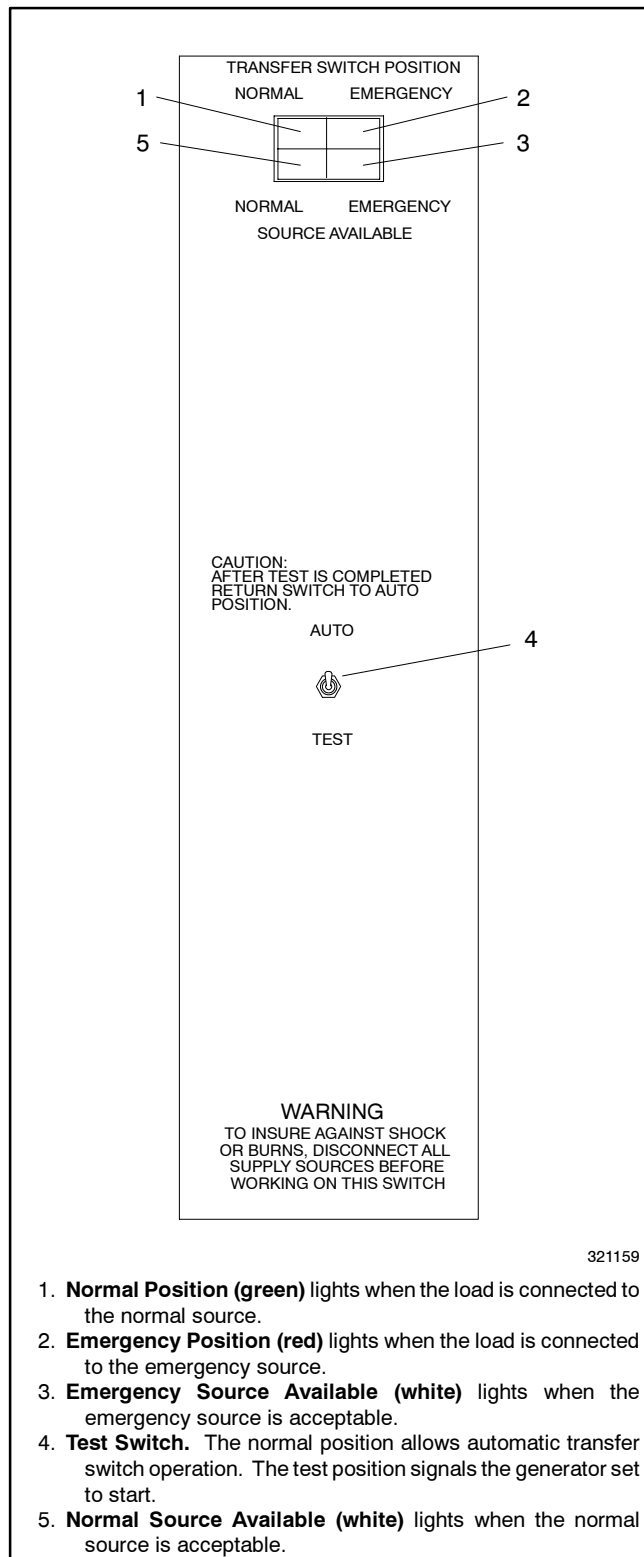
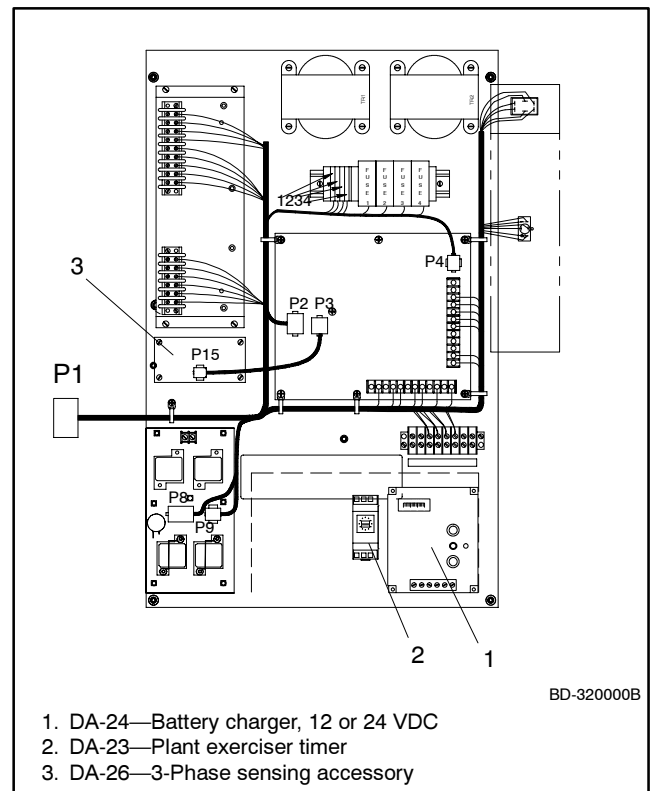

Figure 2-1 Transfer Switch Controls and Indicators
Figure 3-1 Typical E33+ Inner Panel Accessory Mounting Locations
Some of the switches and indicators located on the transfer switch enclosure door may be optional accessories. See Figure 2-1.
1. **Normal Power Source Fails.** The normal source acceptable relay (K2) on the controller's main logic circuit board deenergizes when the voltage on any sensed phase of the normal power source falls below the dropout level. The normal source available indicator lamp turns off. See Figure 2-1 and Figure 5-2.
4. **Emergency Source Becomes Acceptable and Starts a Time Delay to Transfer to Emergency.** Controller circuitry energizes the emergency source acceptable relay K1, located on the main logic circuit board, when the voltage and frequency on one sensed phase of the emergency source reach the pickup levels. The emergency source available lamp lights. See Figure 2-1 and Figure 5-2.
See Figure 3-1 for typical mounting locations for accessories. The mounting locations of accessories may vary when the transfer switch has multiple accessories. See Figure 2-1 for a closeup view of controls and indicators on the front of the enclosure.